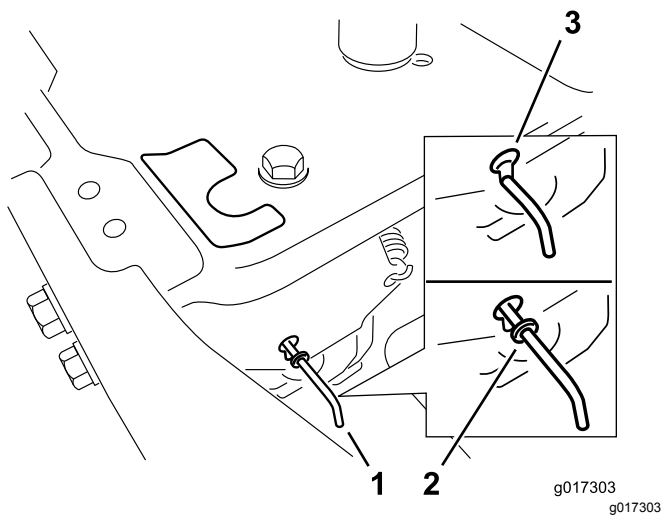

Figure 35
4. Move the bypass levers forward through the key hole and down to lock them in place (Figure 35).
Move the bypass levers rearward through the keyhole and down to lock them in place as shown in Figure 35.